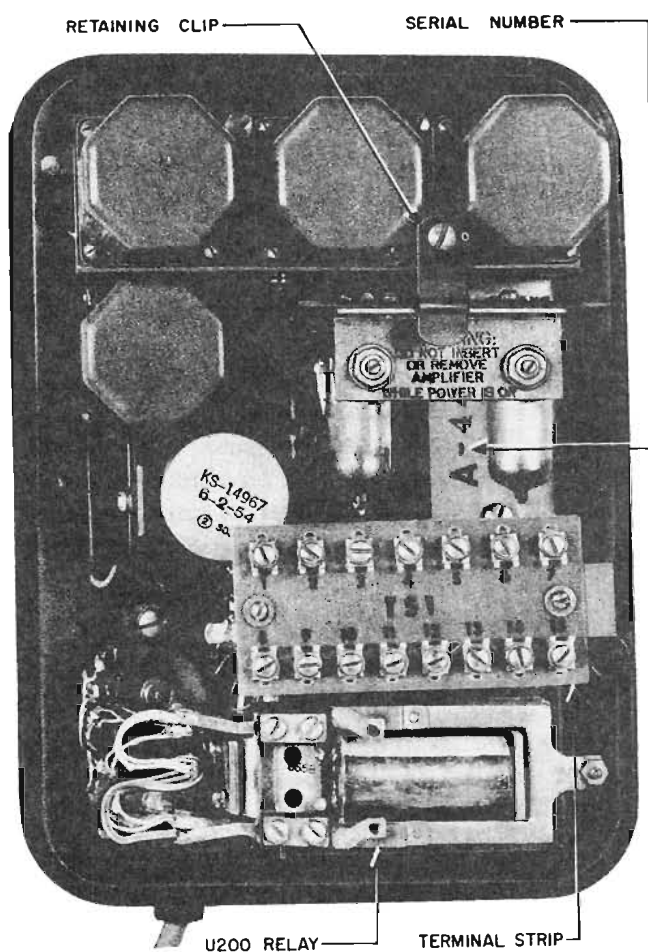

Fig. 3 — KS-14964 Control Unit
2.07 The KS-14964 and KS-14964, List 2 control units (see Fig. 3 and 4) consist of an assembly of electronic apparatus mounted on a base approximately 9-5/8 by 7-1/8 inches.
- In the KS-14964 control unit, the amplifier is held in place by retaining clip (see Fig. 3).